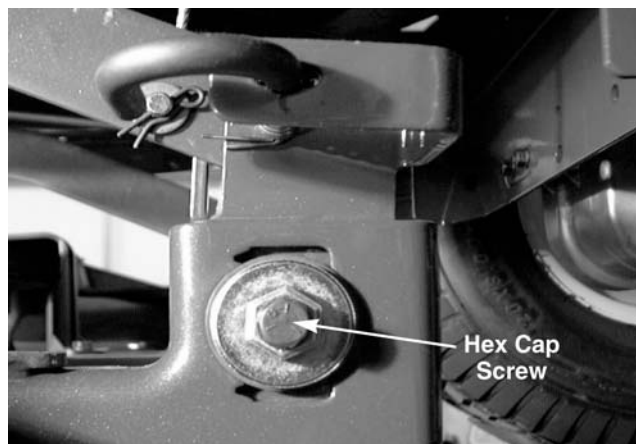

Figure 9-7.
3. Loosen (DO NOT REMOVE) the hex cap screw on the left deck hanger bracket using a 1/2" and a 3/4" wrench. See Figure 9-7.